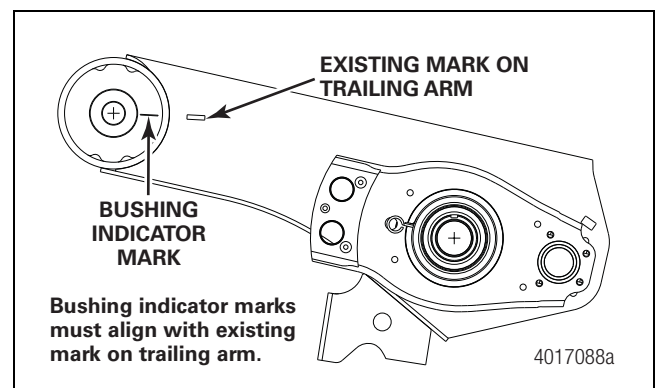

Figure 6.16
14. Verify that the bushing indicator mark is aligned with the existing mark on the trailing arm. Figure 6.16.